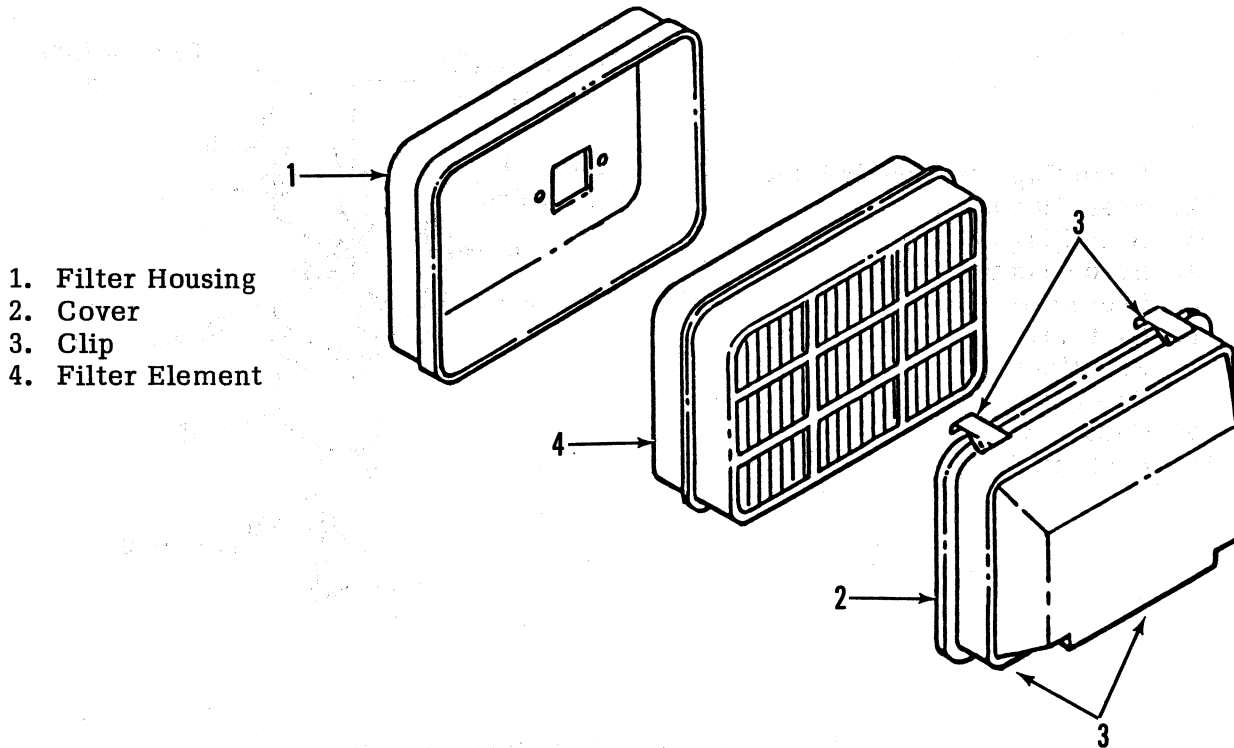

Figure 6-3. Air Filter Replacement
- a. Clean the area around the filter housing (1, Figure 6-3) and the housing itself.
- b. Remove the cover (2) by releasing the four clips (3).
- c. Remove the filter element (4).
- d. Position replacement element (4) within the housing (1).
- e. Install cover (2) and secure with clips (3).